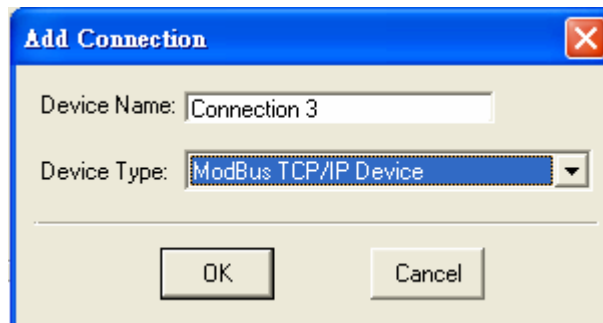

Figure 234. Add the third Ethernet-enabled PLC
7. Next, to add an Ethernet-enabled PLC, click [Add] to add a **third** PLC, for example, “ModBus TCP/IP Device.” See Figure 234.